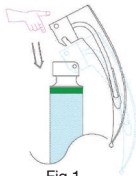

Fig 1
1. Engage the blade by aligning the hook slot in the blade with the hook pin on the handle and apply a sufficient force to make the engagement as shown in fig 1.
2. Apply force upward to bring the blade in operating position as in fig 1.